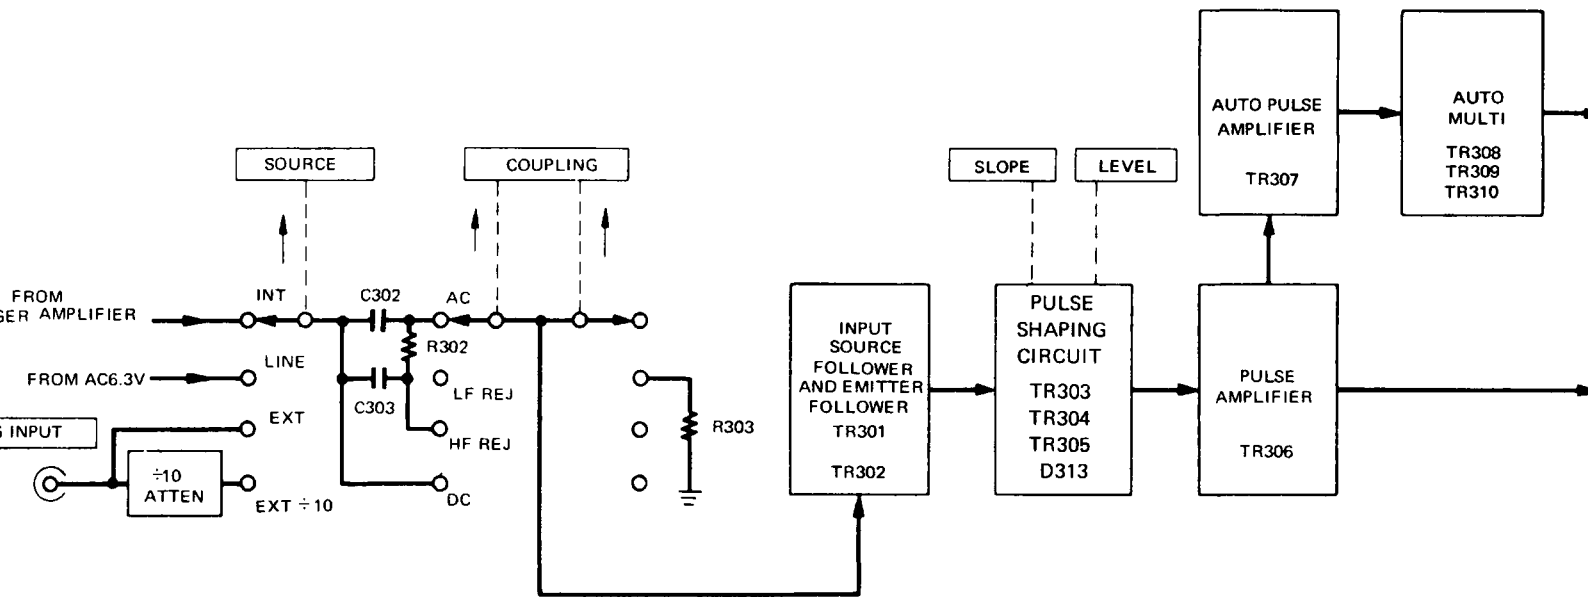

Figure 3-9 Block Diagram, A Trigger Generator
h. A Trigger Generator (Schematic 7). The trigger signal for the A sweep circuits is produced by the A Trigger Generator (see Figure 3-9). This circuit accepts trigger signals from either vertical channel, from the power line, or from an external source.